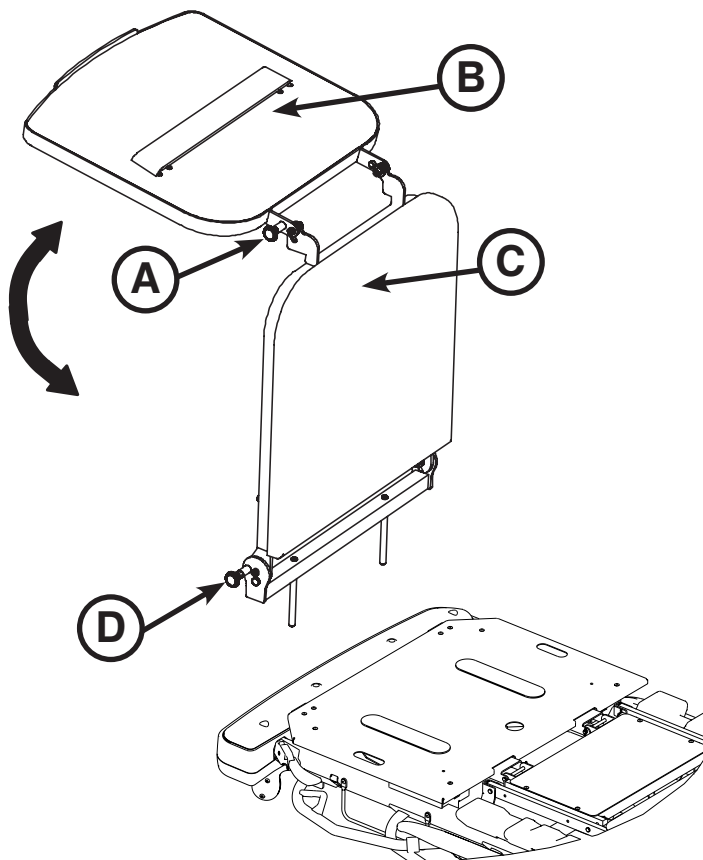

Figure 18.2: Foot Extension/Defibrillator Tray - Foot End
To use as a defibrillator tray, pull out the top knob (A) and pivot the tray (B) over the foot extension (C) until the tray extends flat over the foot end of the stretcher as shown in Figure 18.2.
To use as a foot extension, pull out knob (A) and pivot the defibrillator tray back until it locks against the foot extension (C). While holding onto the assembly, pull out the bottom knob (D) and lower the foot extension down until it is flat as shown in Figure 18.2.